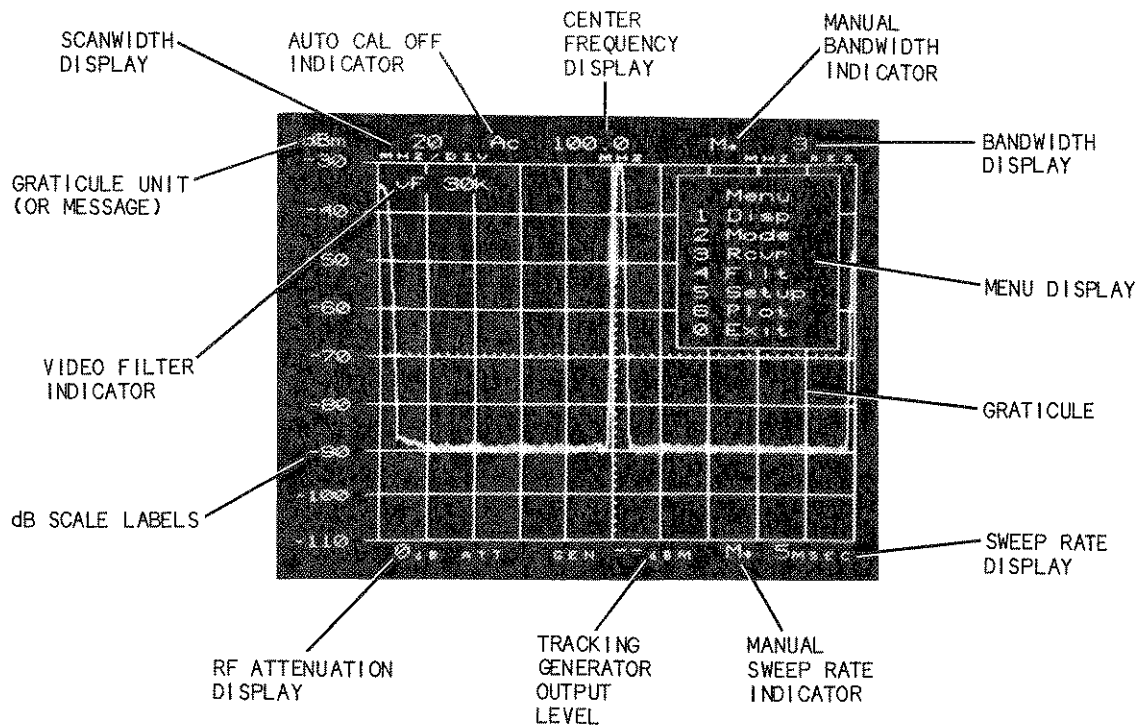

Figure 3-3 Interaction of CRT Display and Keyboard
Following are the functions displayed on the A-8000 CRT (see Figure 3-3) and the keyboard components which control their settings. The keyboard is described in Paragraph 3-4.
Refer to Figure 3-3 to locate CRT displays and to Table 3-2 as a reference for entering key values. All keys on the A-8000 Spectrum Analyzer, except RF, ENTER, MENU and Numeric keys, are paired (up and down or left and right) for operator convenience.
USE: SCAN WIDTH UP (↑) causes the Scan Width to increase until the maximum allowable Scan Width setting for the Center Frequency setting is reached (see Table 3-4). If the SCAN WIDTH UP (↑) key is pressed after the maximum allowable Scan Width value is displayed, the list cycles to the lowest Scan Width value (0 Scan). The values then increase until the desired value appears in the Scan Width display (see Figure 3-3).
SCAN WIDTH DOWN (↓) causes the Scan Width to decrease until the 0 Scan Width setting is reached. If the SCAN WIDTH DOWN key is pressed after the 0 Scan Width value is displayed, the Scan Width cycles to the maximum allowable Scan Width setting for the Center Frequency (CF) selection (see Table 3-4). The value then decreases until the desired value appears in the Scan Width display (see Figure 3-3).